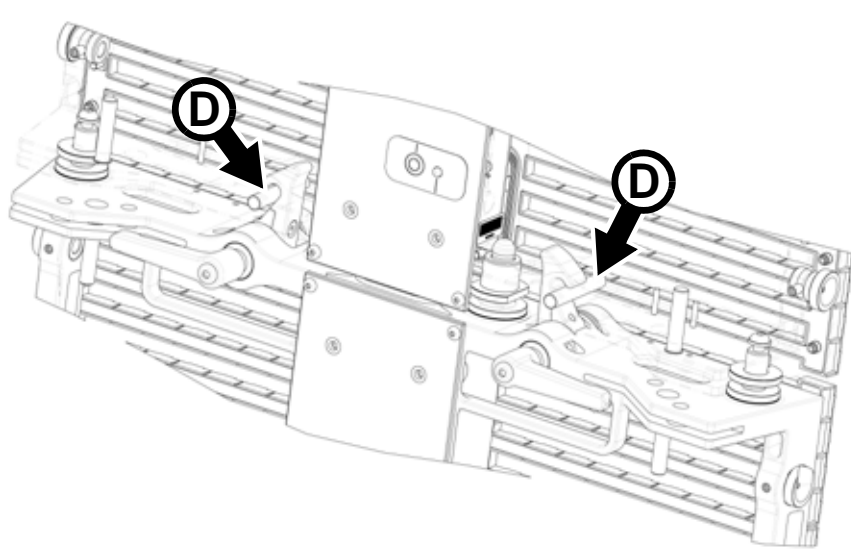

Figure 11: Hooks close around locking posts (cutaway view)
- See Figure 11. Lift the panel until you hear both locking hooks click as they lock around the locking posts **D** in the Header or panel above. Pull the panel back down to fully engage the hooks around the locking posts **D**.